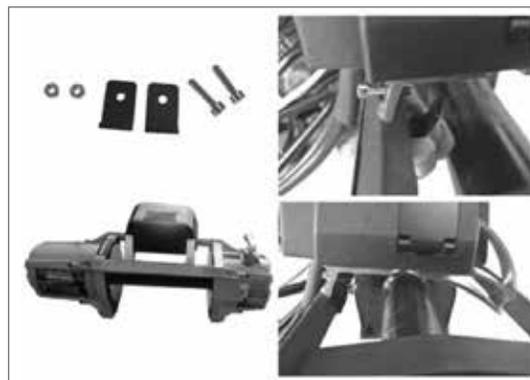

Fig. 1
1. Install the two included aluminum brackets on the bottom of the control box by removing the four nuts on the bottom of the box, then place the brackets over the bolts and secure brackets by re-installing the nut. (Fig. 1) Note: The hooks on the brackets go towards the front of the winch.